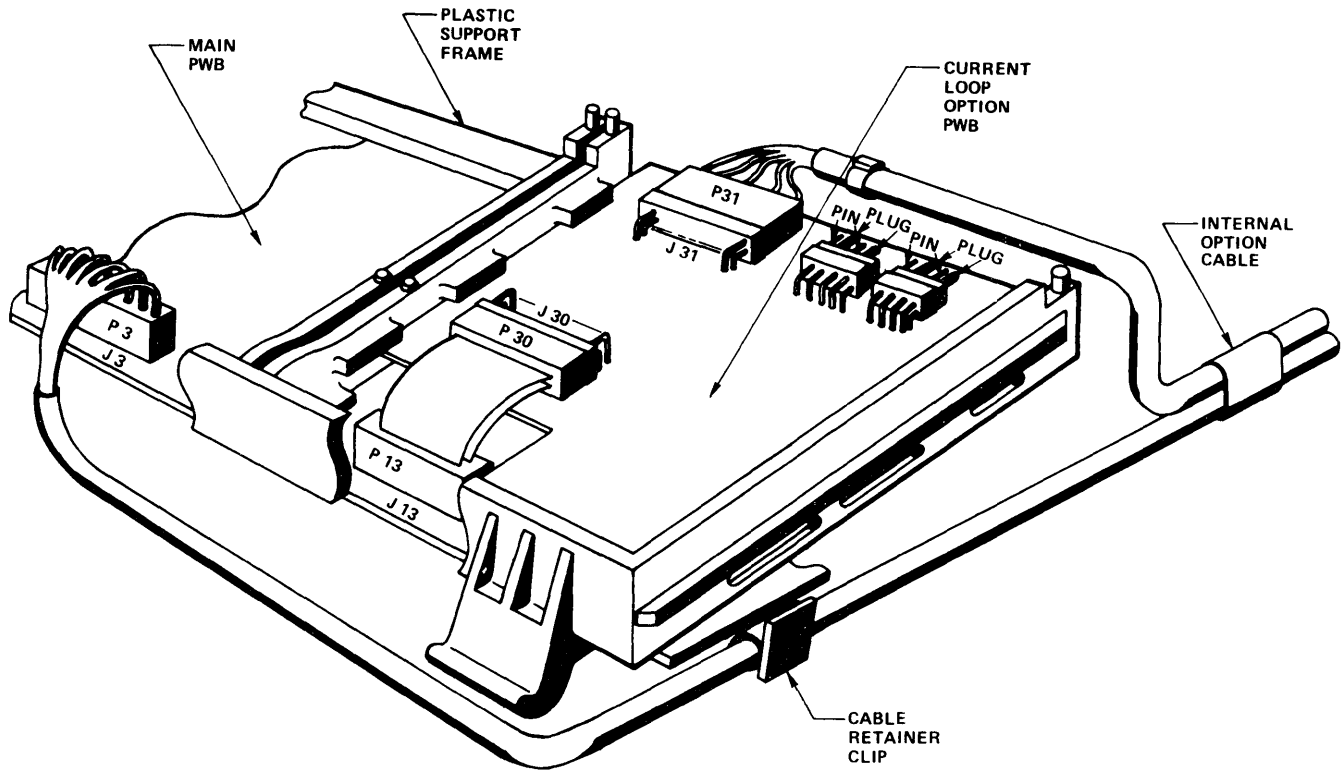

Figure 3. Cable Wiring Detail
- c. Route cable along lower right side of case. Install P3 end into retaining clip on front right side of case and connect P3 to main PWB J3. (Refer to Figure 3)
- a. Install current loop option PWB into plastic support frame as shown in Figure 3.